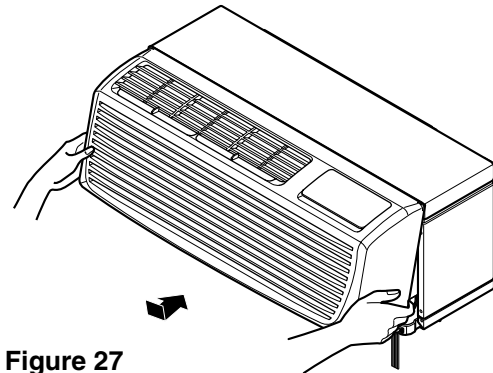

Figure 27
4. Reinstall the front grille by hooking the top over the unit top, then pushing it in at the bottom. (See Figure 27)